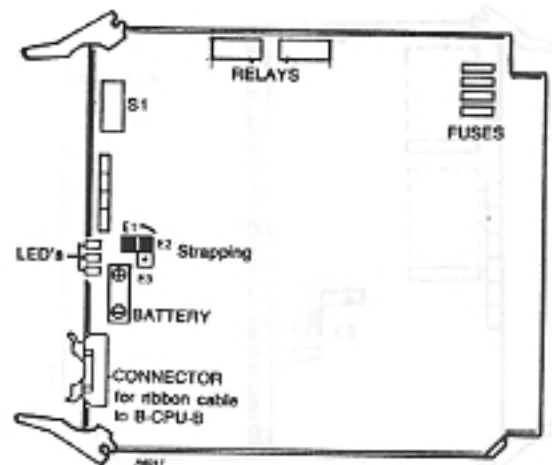

Figure 5-14 AUXILIARY ( B-AUX-A ) PCB
- Strap the battery on the B-AUX-A PCB from E1 to E2 to provide backup power for the system Random Access Memory ( Figure 5-14 ).